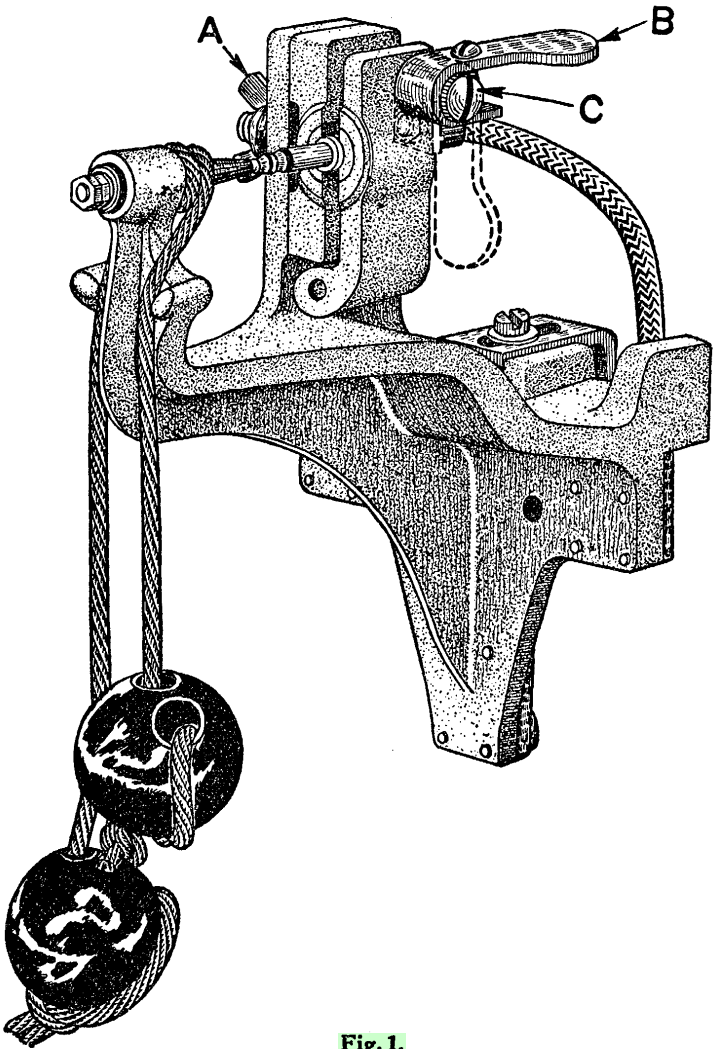

Fig. 1.
3.02 The chuck for the type of plug to be cleaned (see Tools and Materials) should be attached to tool No. 384-A. This is accomplished by passing the bolt of the chuck through the hole in the upright portion of the fixture, inserting the two pins attached to the upright into the small holes of the chuck, and tightening wing nut (A), Fig. 1.
3.03 Lever (B) should be attached to screw (C) so that approximately a quarter turn from the position shown in Fig. 1 to the position indicated by the dotted outline will clamp the plug sufficiently secure for the cleaning operation. By having the lever in this position, the operation of clamping and unclamping the plug can be readily performed with a minimum of effort, since it ties in directly with the operation of placing the plug in the cleaning fixture and picking up the cord used when cleaning the plug.
3.05 Wrap a piece of cord approximately two feet in length around the centering pin at the front end of the fixture. This cord should be wrapped around the centering pin and laid over the plug in the following manner; starting at the left, pass the cord over the centering pin, make one complete loop about this pin and bring the cord down at the right of the pin and to the rear of the first turn. (See Fig. 1.)
3.07 The plug to be cleaned is inserted at the rear of the chuck until the tip centers in the cup-shaped portion of the centering pin. The clamping lever is turned down sufficiently to secure the plug. With the lever positioned as shown in Fig. 1, these operations can be made jointly.
in Fig. 1 preparatory to inserting the next plug to be cleaned into the chuck of the cleaning fixture.